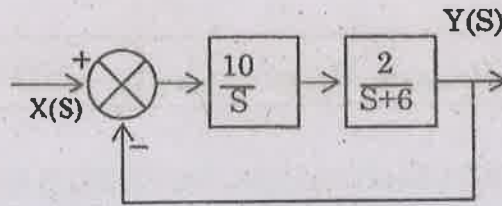

Fig. 12(b)(i)
- (b) (i) For the system shown in fig. 12(b)(i) find the effect of PD controller with $T_d = 1/10$ on peak overshoot and settling time when it is excited by unit step input.